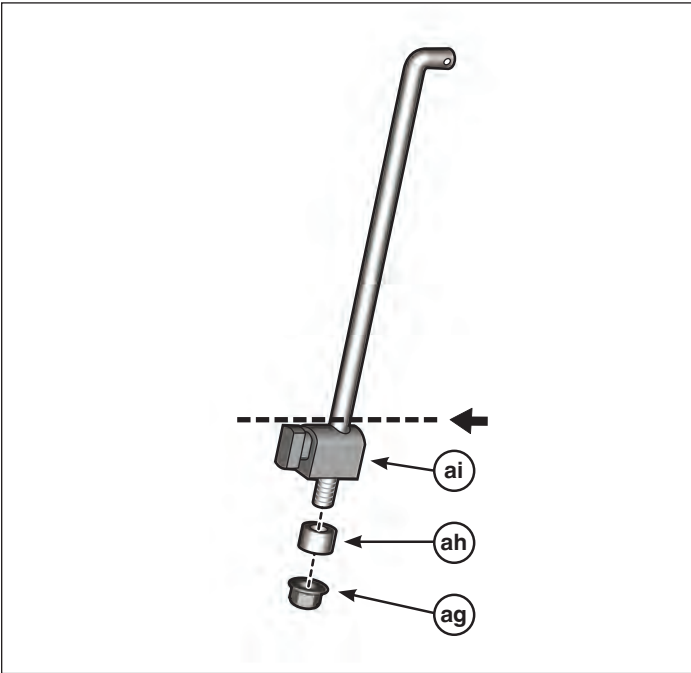
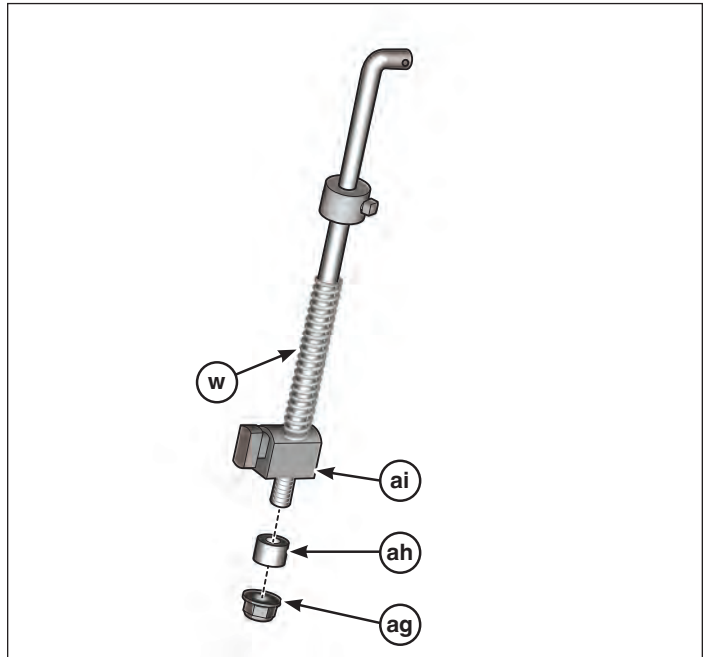

Figure 27
Figure 29
4. Remove the locknut (**ag**, Figure 27) and spacer (**ah**).
9. Install spring (**w**, Figure 29) and special nut (**ai**) in location marked in Figure 27.